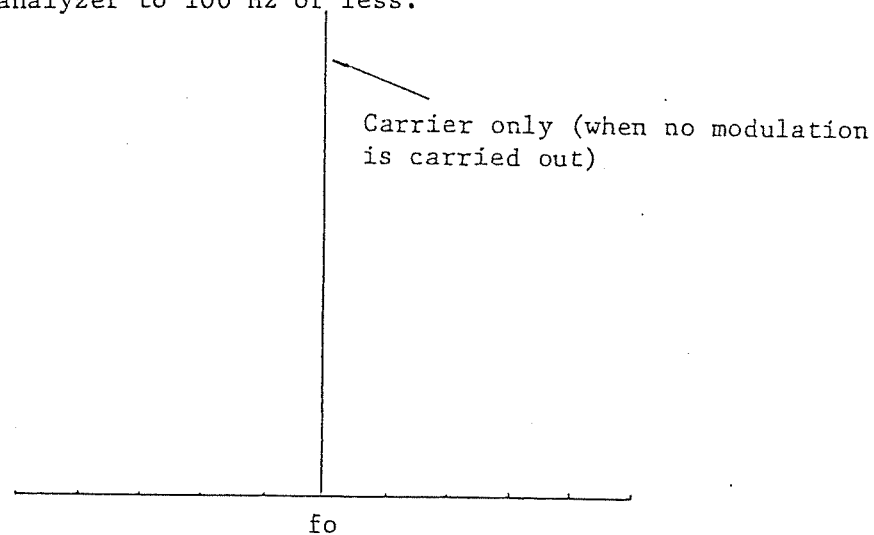

Fig. 4-11
- (1) As test item, set [AF INPUT LEVEL] ② by pressing the  or  button ①.
- (2) Set the [DEVIATION kHz] range switch ③ to [5].
- (3) Set the [MOD SELECT] switch ④ to [INT].
- (4) Turn the [1 kHz OR EXT] knob (5) fully counterclockwise and leave it there.
- (5) Set the [FREQUENCY RANGE] switch (6) to [x1] and the [AF OSCILLATOR 50 ~ 2999 Hz] (7) to [906].
- (6) Set the [RF FREQUENCY 25 ~ 520 MHz] (8) to [250.0000] and the [OUTPUT LEVEL dBu] dial (9) to [80].
- (7) Connect a spectrum analyzer to the [RF INPUT/OUTPUT 50  $\Omega$  MAX. 25 W] (10) and bring the 250 MHz signal to the center of the screen as illustrated in Fig. 4-11.